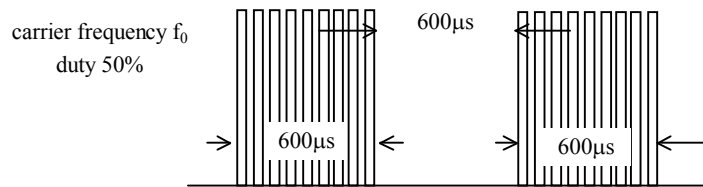

Fig 1. Burst Wave
- (1)Measuring placeIndoor without extreme reflection of light.
- (2)Ambient light source... Detecting surface illumination shall be 200±50Lux under ordinary hite fluorescense lamp of no high frequency lighting.
- (3)Standard transmitter ... Burst wave indicated in Fig 1. of standard transmitter shall be arranged to 50mVp-p under the measuring circuit specified in Fig 2.